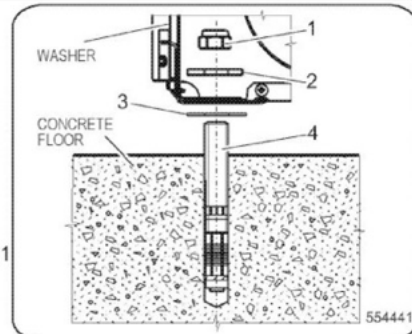

Figure 14 – Rigid-mount machines, Installation on floor
- The drum of rigid-mount machines is fixed to the frame. The floor and steel base (if used) underneath the machine **MUST** be stable enough to be able to absorb the dynamic loads which are created during the spinning sequence, see the values for each machine specified in table 1, 2. Therefore, M16 anchor bolts - pos.4 – see figure 14 and 15 and washers  $\varnothing 60 / \varnothing 16.5 \times 6\text{mm}$  - pos.2 and M16 self locking nuts - pos.1 must be used so that the machine, the steel base (if used) and floor form one integral unit – see figures 14 and 15.
- Check that the machine is installed in a level and stable manner in all its corners. If necessary, level it up by means of stainless or galvanised spacing washers, see figures 14, 15, 17, pos.3 (washers are not supplied with the machine) inserted in between the machine frame and the floor – see figures 16, 17. The dimensions of the spacers must be the same as the dimension of the machine frame in the place where the anchor bolts are located – 80x80mm.